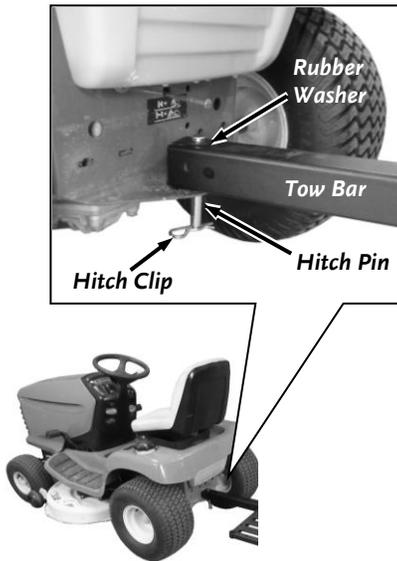

Figure 81
1. Hitch the Tow Bar to your Mower using the Hitch Pin with Rubber Washer and secure using the Hitch Clip (Figure 81).